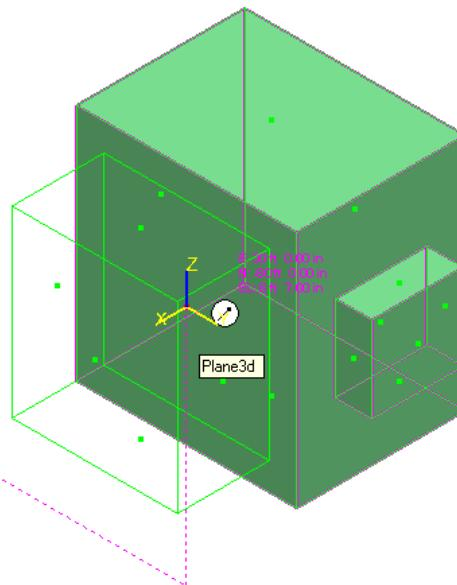

Figure 53: The Shape Rotated Towards West
25. Use the arrow key to rotate the shape so that the shape x axis is facing West. Move the cursor and locate the center point on the west face of the transformer body, as shown in Figure 53.